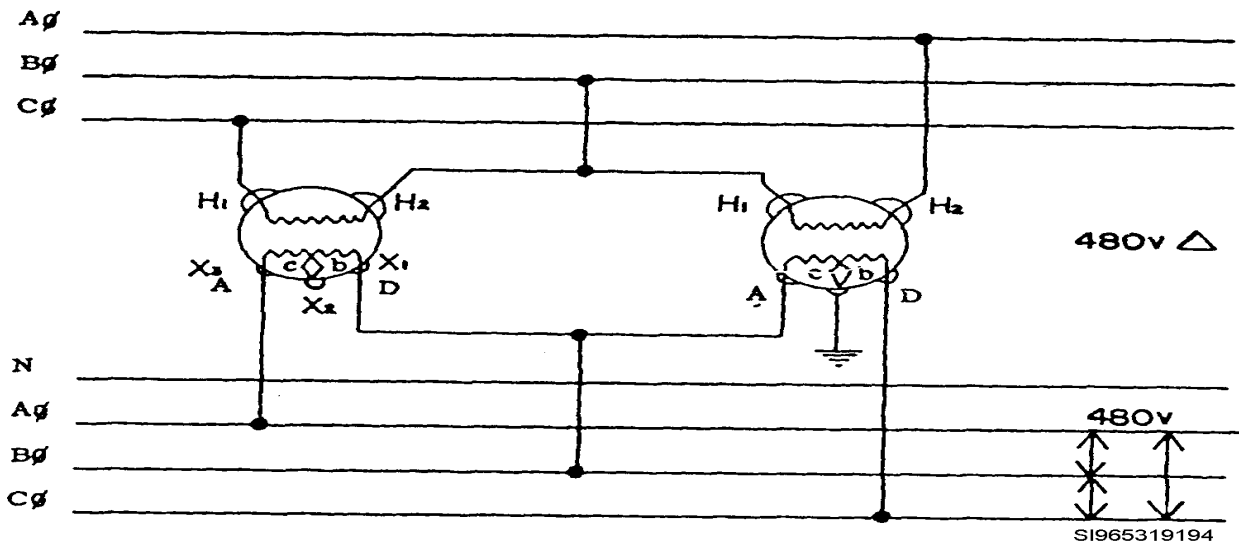

Figure 10, Delta/Open Delta for Lights and Power
**Step 18: Primary Connection for delta / open delta as seen in Figure 10 above.**
**Step 19: Secondary Connection for delta / open delta as seen in Figure 10 above.**